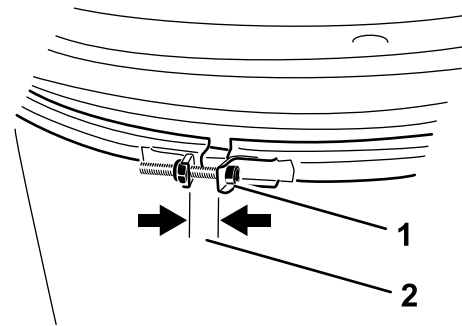

Figure 26
1. Check the nozzle clamp (Figure 26) daily to ensure that is tight.